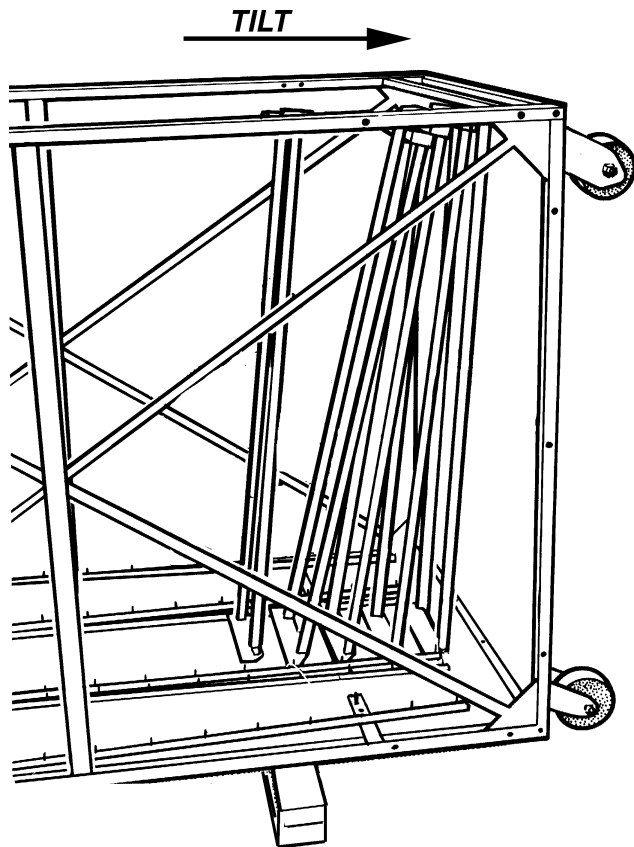

Figure 19
**Step 13:** Beginning at the bottom of the rack, place one egg tray frame assembly (Item 1) over each pair of pins on the adjoining turning bars. Tilt all the egg tray frames against the bottom front panel, towards the casters (Figure 19).